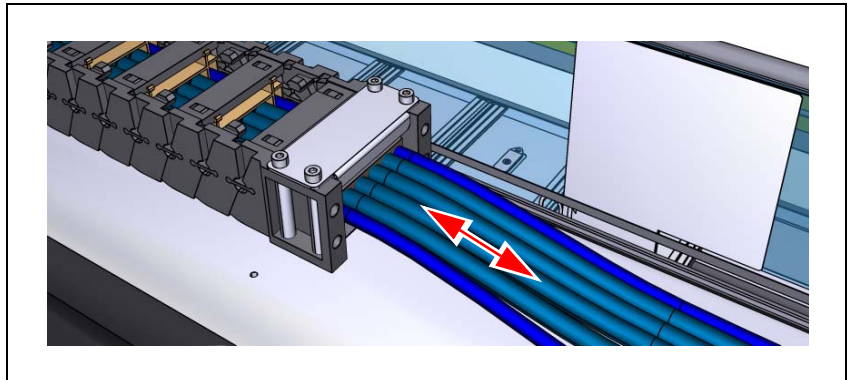

Figure 5-38. Adjust cables and hoses.
- Then push the cable/hose back about half the way of the pulled out distance. See Figure 5-38.